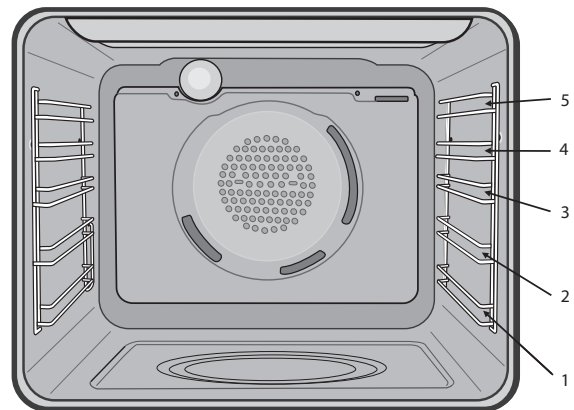
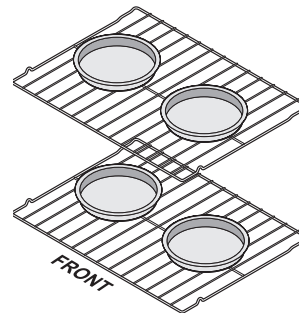

Figure 9: Oven Rack Positions
Figure 11: Baking with multiple levels & racks
- For best results when baking with one oven rack, place racks in positions 2 (Figure 9).
- For best results when baking cakes or cookies using two oven racks, place racks in positions 2 and 4 (Figure 9) and place pans as shown in Figure 11.